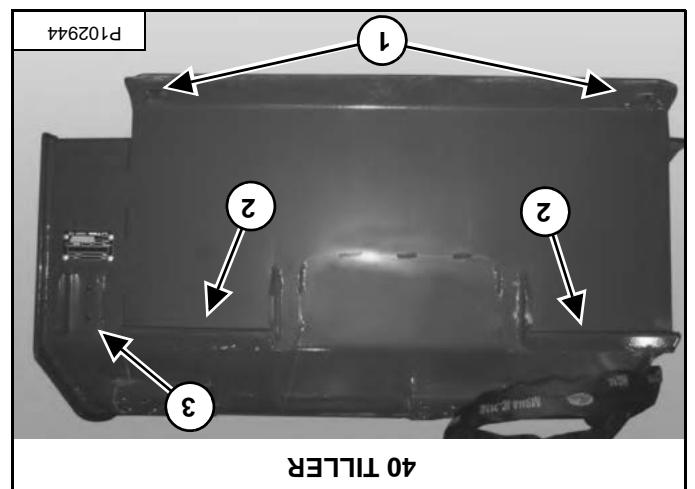
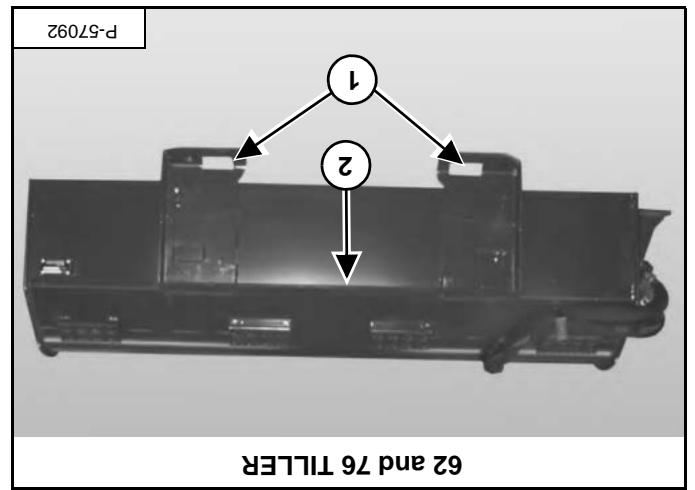

Figure 6
Figure 5
Inspect the Bob-Tach centering guide (item 3) [Figure 6] (40 tiller only).
Inspect the Bob-Tach™ wedge mounts (item 1), mounting flange (item 2) [Figure 5] or [Figure 6] and all welds on the tiller for wear and damage each time the tiller is removed from the machine.